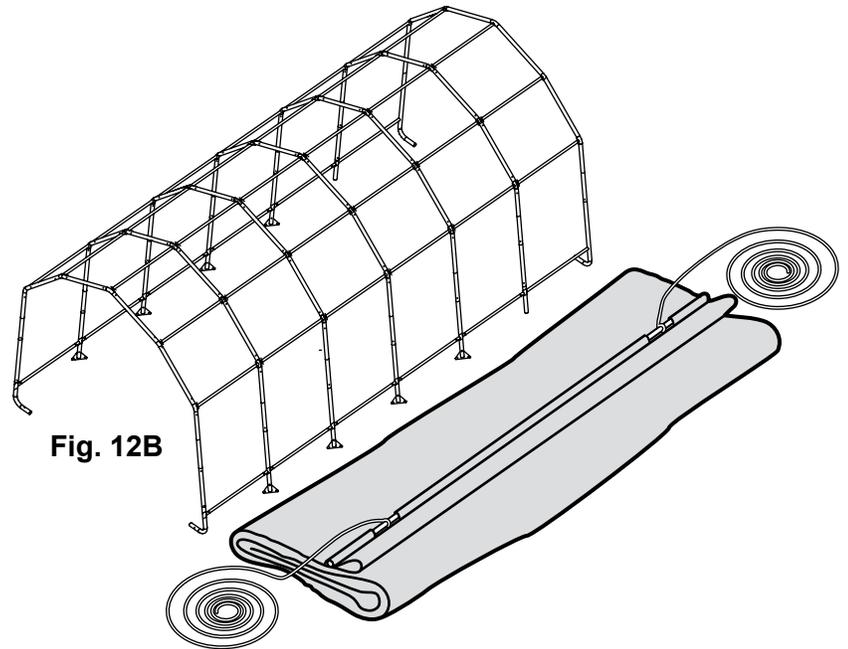

Fig. 12B
2. Fold over the side closest to the frame so the pipe pocket is now accessible. Insert a cover pipe at the first middle rib from the front and the first middle rib from the rear so that it is inserted in the pipe pocket on both ends of the pipe but the center of the pipe is exposed. For long buildings it may be necessary to use additional pipes in the middle. Fig. 12B